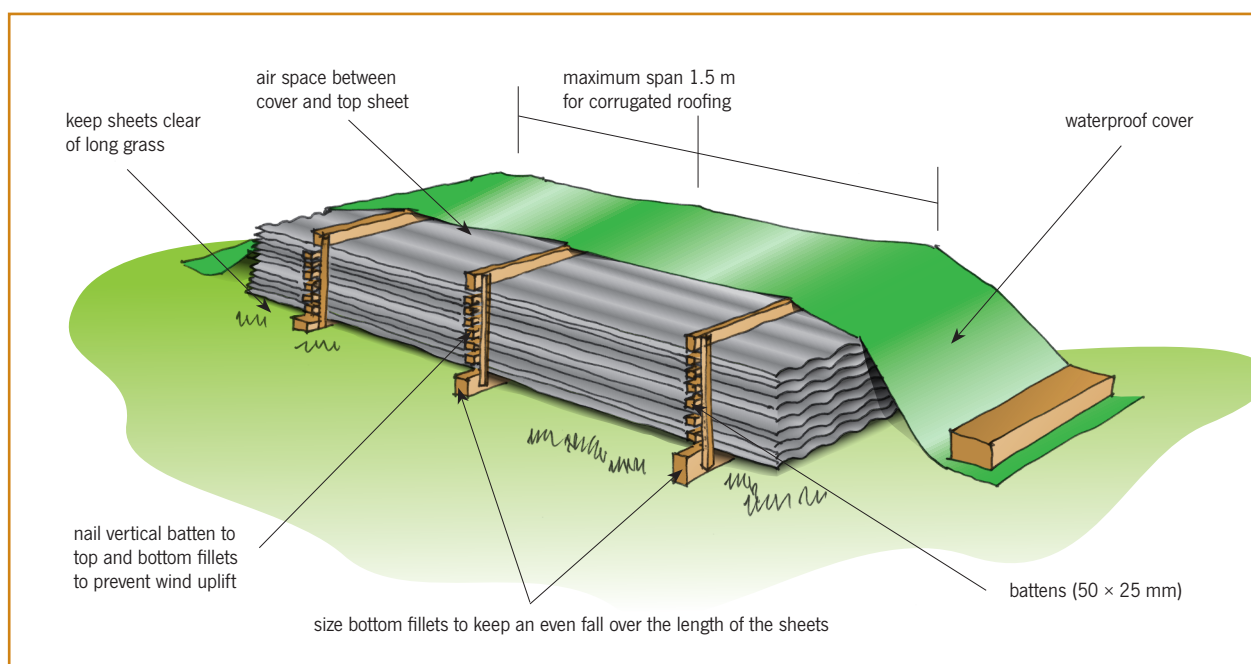

Figure 1. Storage on site.
- covered, allowing adequate ventilation while protecting the sheets from water and dirt (Figure 1) – ventilation is important to help prevent any moisture collecting between sheets.